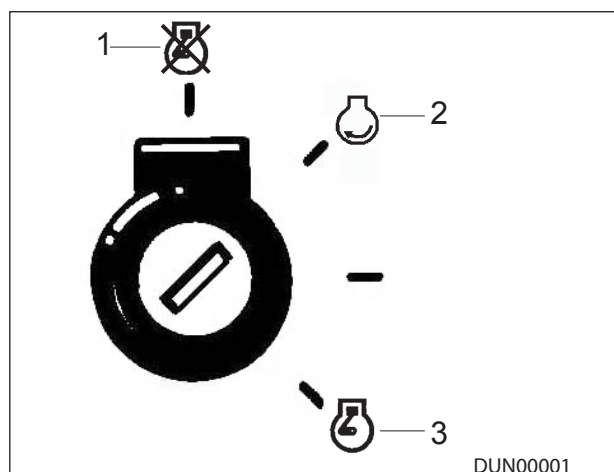

Figure 7.20 - Ignition Key Positions
3. Turn the ignition key on the control panel to the "ON" position, Figure 7.20 (Item 2).
4. Turn the ignition key to the crank position, Reference: Figure 7.20 (Item 3).